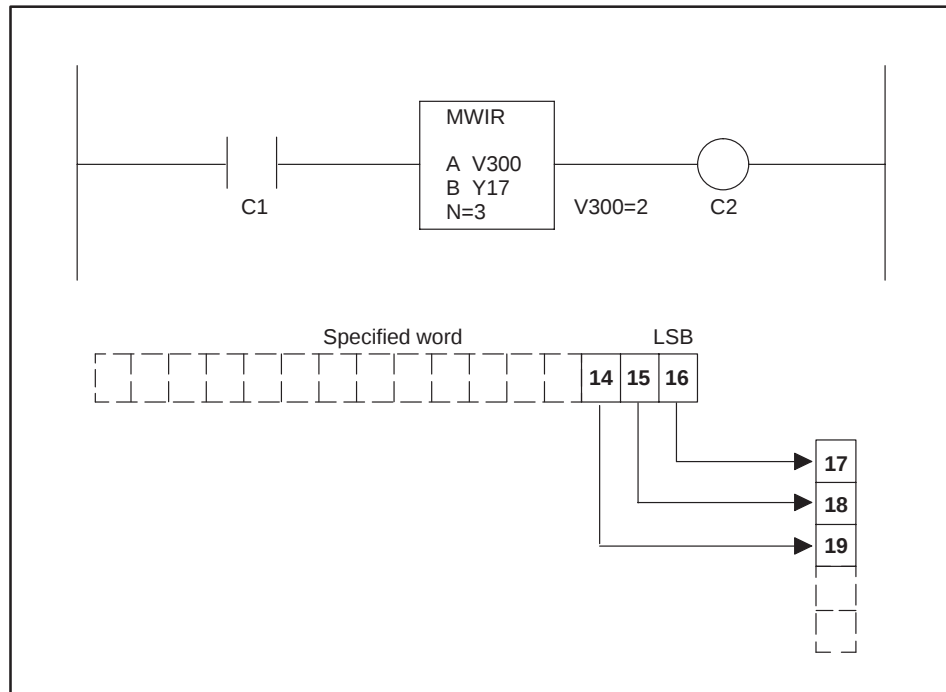

Figure 3-9 Identifying the Data Being Transferred
3. The data identification outputs Y19 – Y17 are set according to the data being transferred. These are decoded by the module in order to distinguish the type of data being loaded (see Figure 3-9).